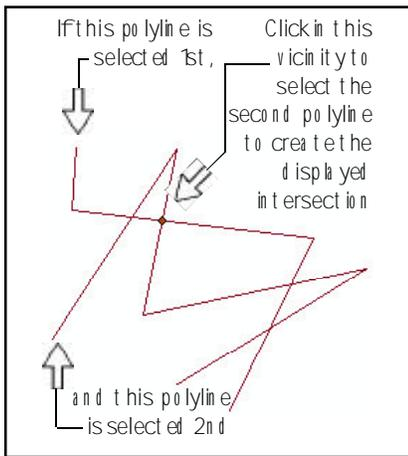

Figure 4 Polyline - Polyline Intersection
4. **Polyline with another polyline** yielding at least as many possible intersections as the number of times the polylines cross each other. The intersection that is used is the one nearest to the user's click that selected the second polyline. See Figure 4. Also refer to the additional comments below regarding polyline intersection rules.